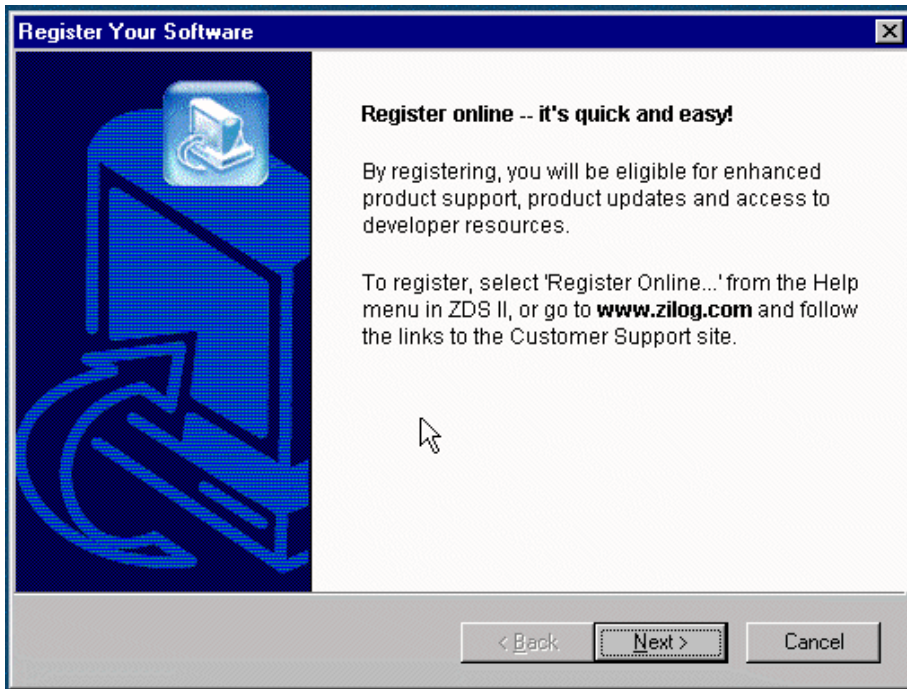

Figure 9. Register Your Software Screen (Reference Only)
7. When the installation is complete, another screen (Figure 9) appears asking you to register the product online at www.zilog.com. To register at a later time the registration link to the internet site is provided in the ZDS II Help menu.